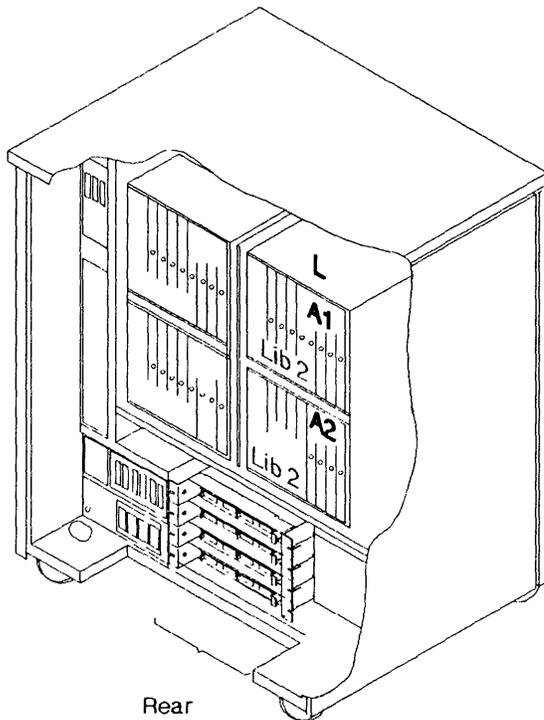

Figure 4-113. LIC Board Type 2 Locations.
5. Locate the board to exchange. Refer to Figure 4-113 on page 4-83